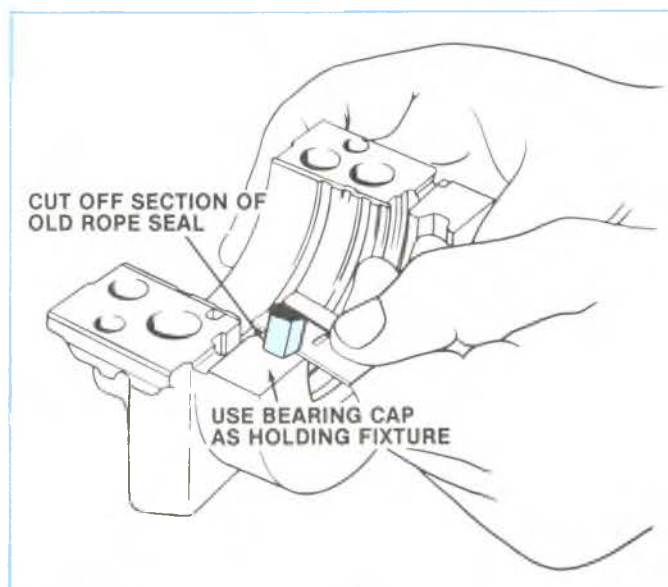

Figure 2-23, Cutting Section of Rope Seal.
4. Measure the amount the seal was driven up on one side; add $\frac{1}{16}$ ", then cut this length from the old seal removed from the main bearing cap with a single edge razor blade. Measure the amount the seal was driven up on the other side. Add $\frac{1}{16}$ " and cut another length from old seal. Use main bearing cap as a holding fixture when cutting seal as shown in Figure 2-23.